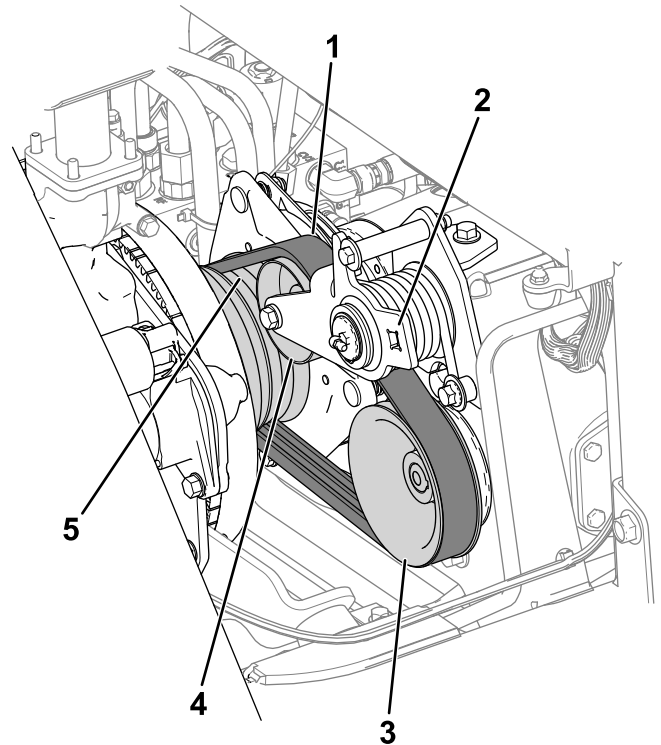

Figure 75
3. Route the belt on the engine pulley, idler pulley, and pump pulley (Figure 75).